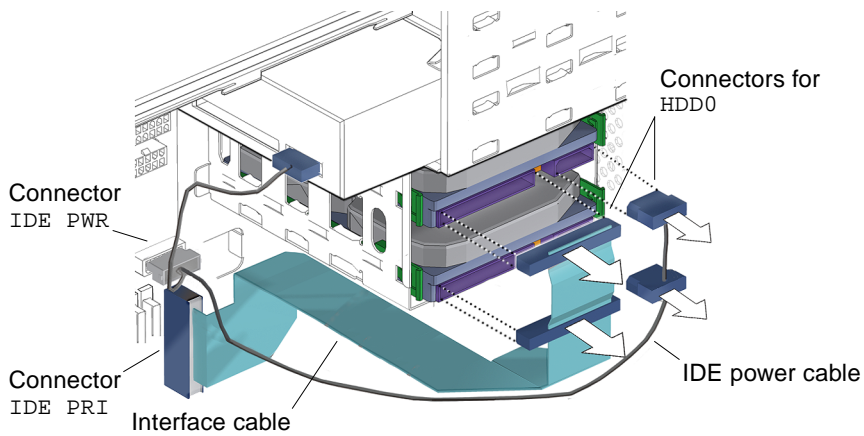

FIGURE 12-2 Disconnecting the Hard Drive Cables
3. Disconnect the power and interface cables from all installed hard drives. See FIGURE 12-2.